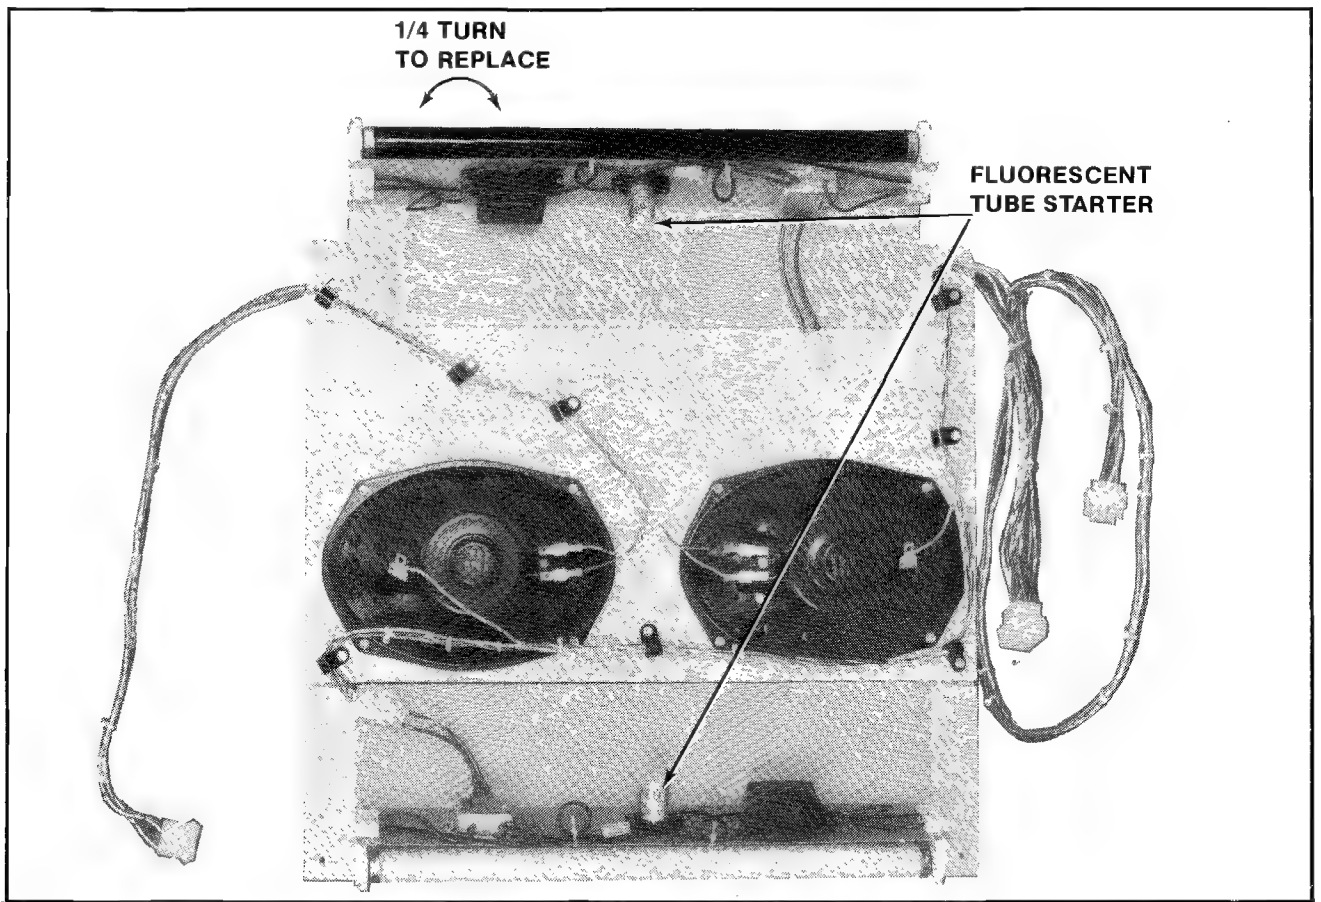

Figure 4-15 Replacing Fluorescent Tube Starter
- ☐ Replacing the fluorescent light tube starter. See Figure 4-15.
- ☐ Replacing the ultraviolet light tube starter. See Figure 4-15.